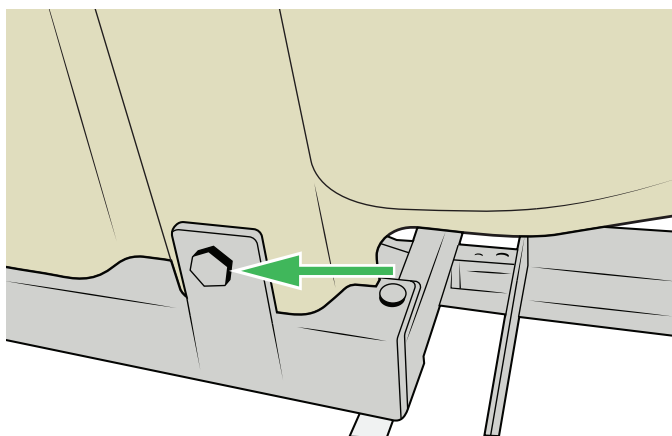

Figure 58
36. Remove the four bolts (two on each side) to separate the bathtub from the chassis. See Figure 58 and Figure 59.